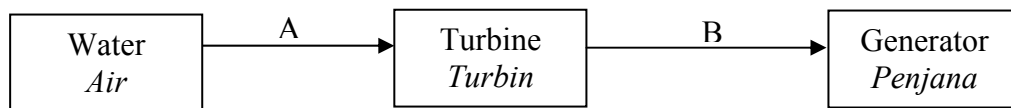

Figure 9
18. Figure 9 shows a flowchart of a system to produce energy through the generation process.